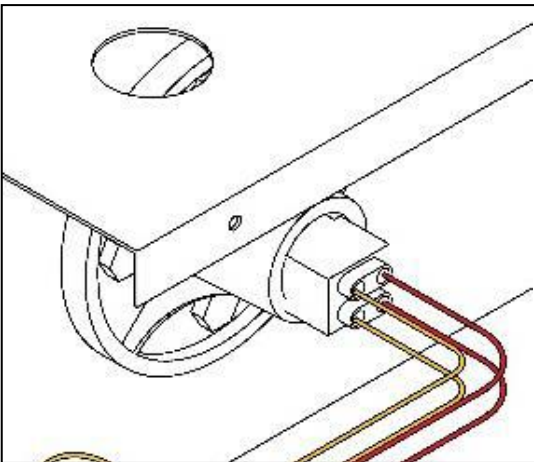

Figure 16
5.) Disconnect lamp plugs from lamps that will be replaced. See Figures 16 and 17.
11.) Reconnect lamp plugs. See Figures 16 and 17.
5.) Disconnect lamp plug and power attached to defective ballast. Take note of which terminals power the defective ballast so the new one can be wire correctly. See Figures 16 and 17.
9.) Reconnect the lamp plug. Reconnect the wires powering the ballast. See Figures 16 and 17.